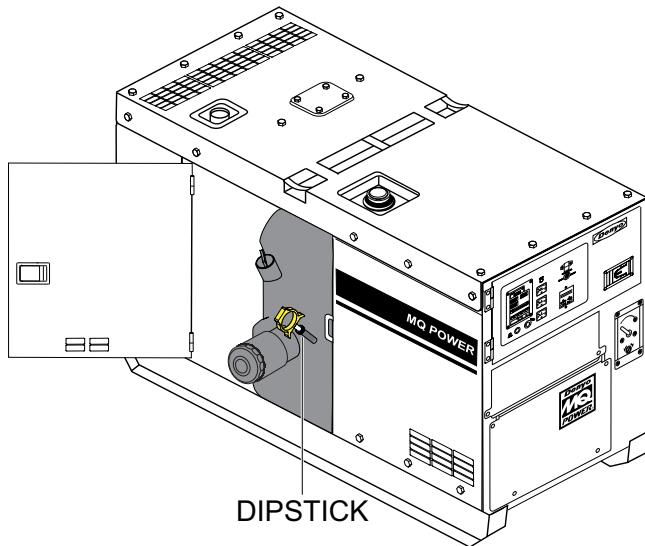

Figure 13. Engine Oil Dipstick
2. Remove the dipstick from its holder (Figure 13) and wipe it clean.